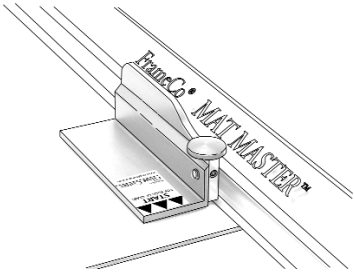

fig. 1 Attach the Glass Cutter onto the Mat Master Rule.
1. For the best results attach the Glass Cutter to the FrameCo Mat Master™ Rule. See fig. 1